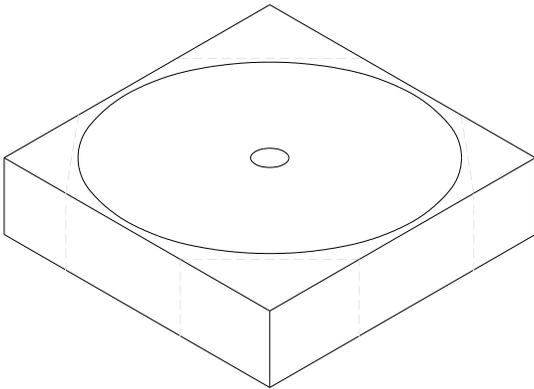

FIGURE 3
5. After drilling, saw corners off being careful not to saw inside of the circle. See **FIGURE 3**.